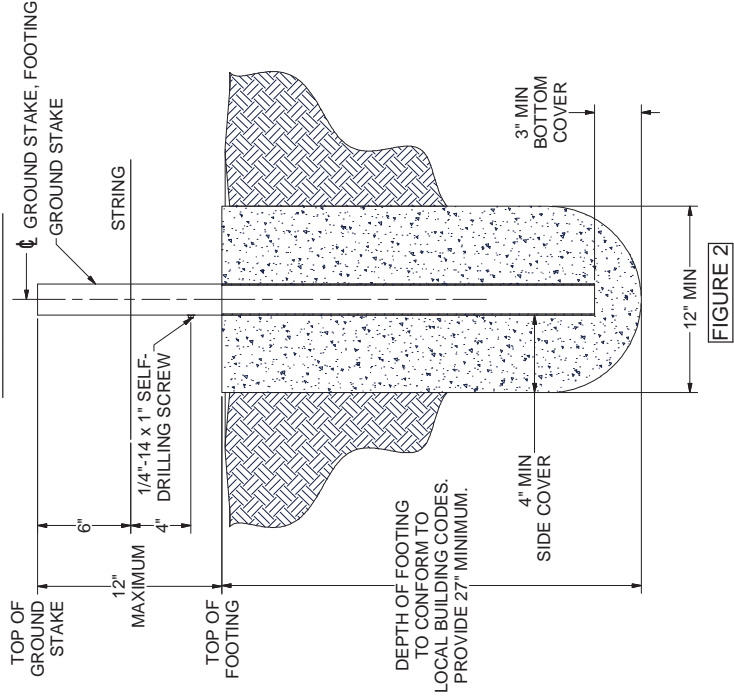

FIGURE 2
5. WHEN LOCAL WIND OR SOIL CONDITIONS WARRANT CONCRETE PIERS FOR POST ANCHORS, INSTALL THE GROUND STAKES ACCORDING TO **FIGURE 2**.